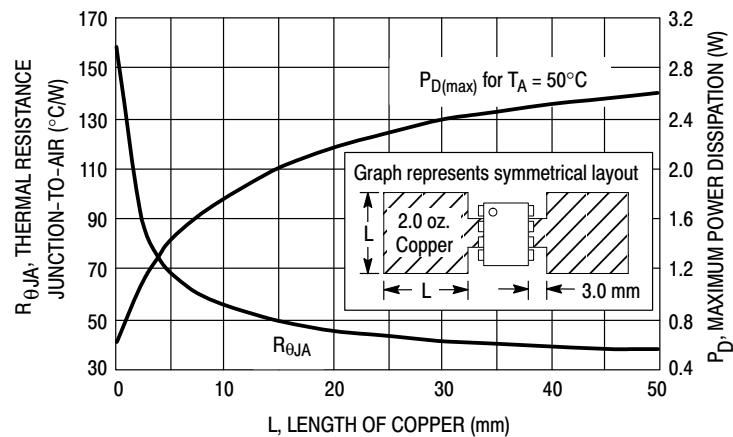

Figure 24. SOP-8 Thermal Resistance and Maximum Power Dissipation versus P.C.B. Copper Length
1. SOIC-8 Junction-to-Ambient Thermal Resistance is for minimum recommended pad size. Refer to Figure 24 for Thermal Resistance variation versus pad size.